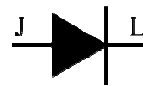

Figure 4.1
A diode symbol is shown in figure 4.1
- a. The diode's two terminals are labelled **J** and **L**. Which of these two terminals is connected to the diode's **Cathode** and which to the **Anode**? (1)
- b. For a diode to conduct in the forward direction a voltage difference must exist across the diode such that one of the terminals labelled in figure 4.1 is more positive than the other. Which terminal must be more positive than the other? (1)